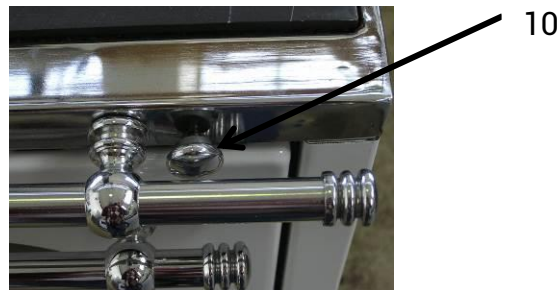

Figure 4
Moving of the warming flap is made by activating the button (Fig. 4, item 10) located above the oven door. It is used for shortening the paths of flue gases during firing.